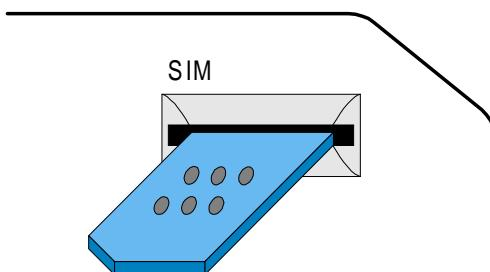

Figure 6: Modem SIM Access
- Install the SIM card in the SIM card slot on the front plate with the contacts facing up (Reference Figure 6). This is accomplished by pushing the SIM inward and down.